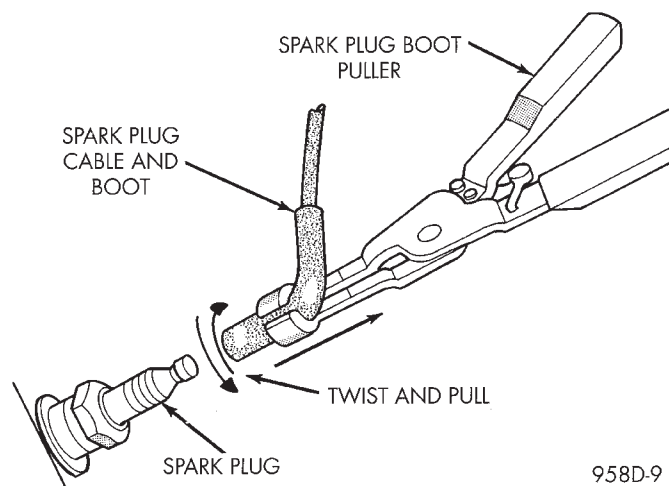

Fig. 26 Cable Removal
CAUTION: When disconnecting a high voltage cable from a spark plug or from the distributor cap, twist the rubber boot slightly (1/2 turn) to break it loose (Fig. 26). Grasp the boot (not the cable) and pull it off with a steady, even force.
(1) Always remove spark plug or ignition coil cables by grasping at the cable boot (Fig. 26). Turn the cable boot 1/2 turn and pull straight back in a steady motion. Never pull directly on the cable. Internal damage to cable will result.
(2) Prior to removing the spark plug, spray compressed air around the spark plug hole and the area